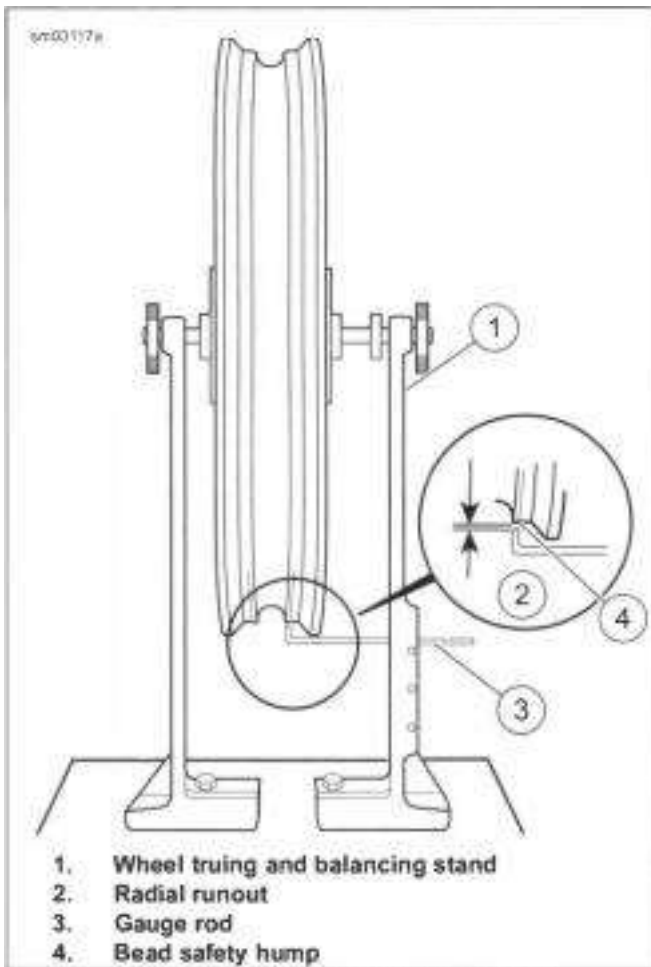

Figure 3-18. Checking Radial Runout
1. See Figure 3-18. Mount wheel in WHEEL TRUING STAND (PART NUMBER: HD-99500-80).
2. Adjust the gauge rod (3) near to the tire bead safety hump (4). If using a dial indicator, place the tip on the safety bead hump.